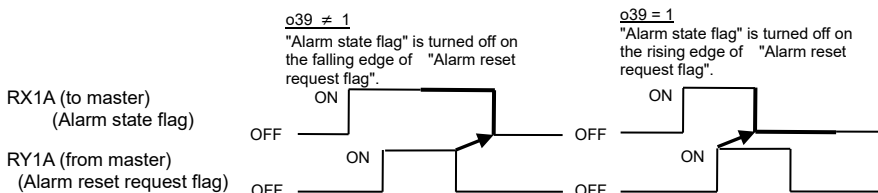

Figure 7.1 Operation selection of "Alarm state flag" specified with [o39]
*4 Please change the settings when an alarm is not generated. Refer to Figure 7.1 Operation selection of "Alarm state flag" specified with [o39]. This function is available in ROM version 700 and later.